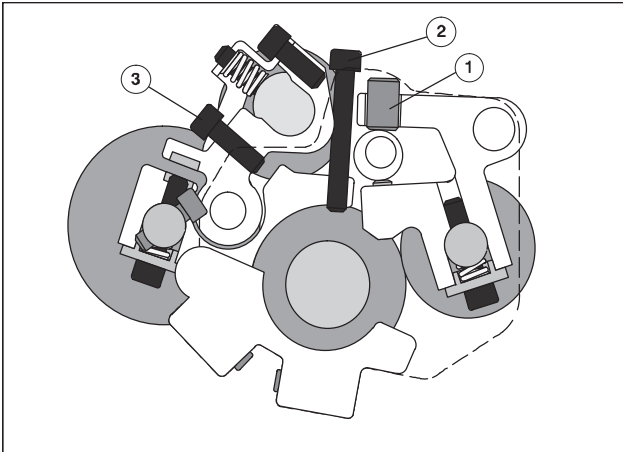

Fig. 51 Adjusting the metering roller to the water pan roller
3. Using the grub screws (Fig. 51/1), adjust a uniformly wide contact area on D.S. and O.S.
2. Using the red adjusting screws (Fig. 51/2), adjust a uniformly wide contact area on D.S. and O.S.
2. Using the blue adjusting screws (Fig. 51/3), adjust a uniformly wide contact area on D.S. and O.S.